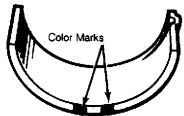

Fig. 20: Identifying Undersize Main Bearing Color Marks
- 1) Bearings are available in .010" (.25 mm) undersize. Undersize bearing thickness is determined by 2 color marks. See Fig. 20. See COLOR CODE FOR UNDERSIZE BEARINGS table.